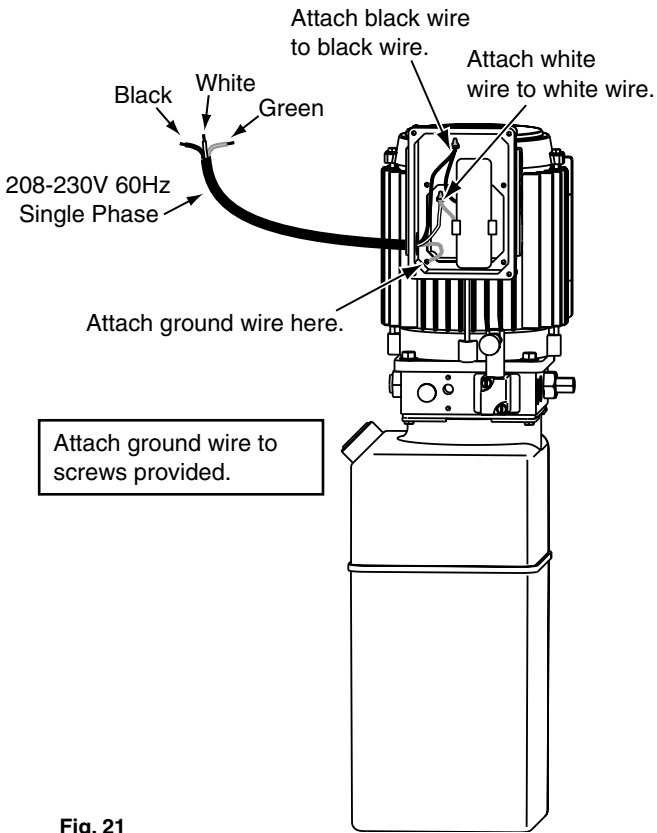

Fig. 21
11. Electrical: Have a certified electrician run appropriate power supply to motor, Fig. 21 & 22. Size wire for 20 amp circuit. See Motor Operating Data Table.